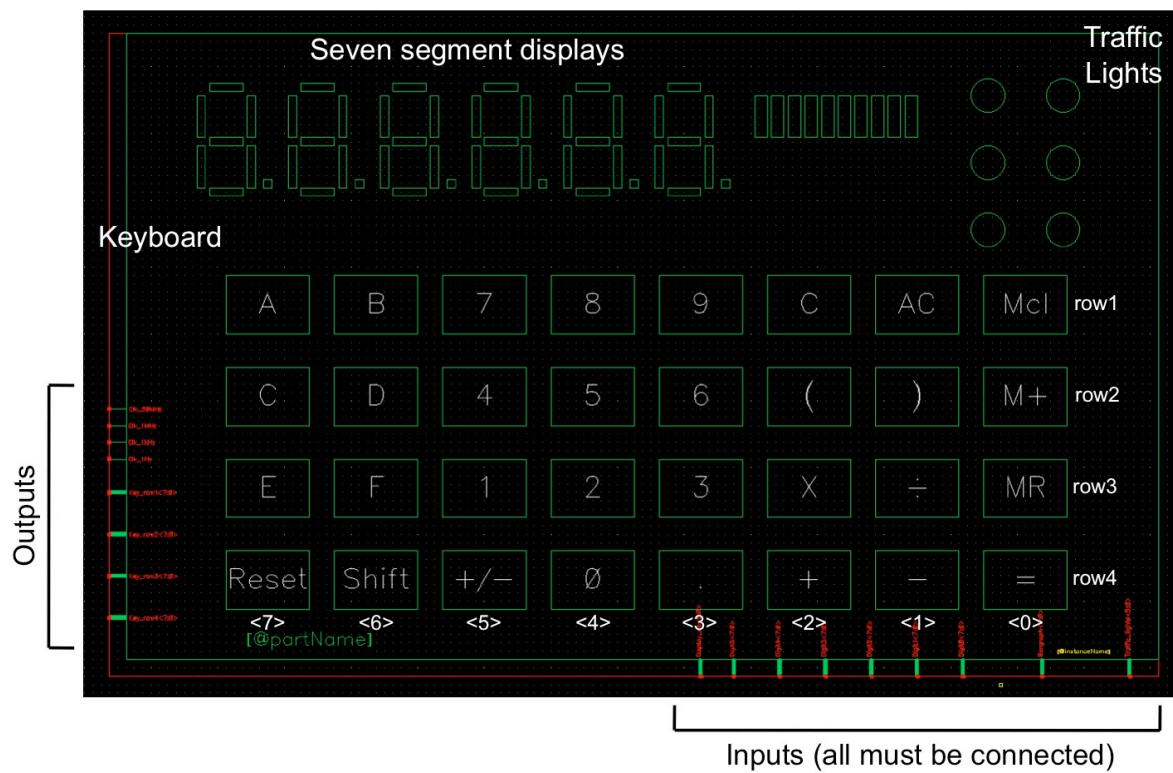

Figure 5.4: Symbol for the “Board”
- e) To interface the circuit to the ‘outside world’ a cell named “sevensegmentdecoder_test” with view “schematic” has been provided for you, instantiate the symbol for your seven segment decoder in this schematic. You will also need to instantiate the cell ‘Board’ from the library called “ENGLAB_12111” which contains the interface definitions that allow you to connect to the various components available on the experimental board. Figure 5.4 illustrates the symbol for “Board” illustrating the input and output signals. This is the top level of the hierarchy so there are no input/output pins from this design, and hence no symbol.